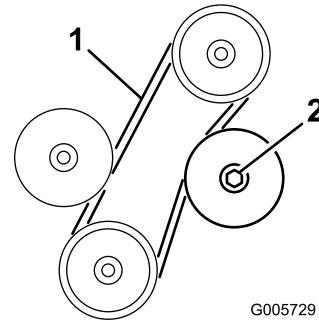

Figure 67
3. Belt should deflect 1/4 inch (6 mm) midway between the pulleys with 5 lb. force (22 N) (Figure 67). If deflection is incorrect, proceed to step 4. If correct, proceed to step 5.
4. Loosen locknut securing adjustable idler pulley (Figure 67). Push idler pulley against belt until proper deflection is achieved and tighten idler pulley locknut (Figure 67).
2. Loosen locknut securing adjustable idler pulley, slide pulley away from belt, and remove belt from pulleys (Figure 67).
pulley and stationary idle pulley. Tighten idler pulley locknut to secure adjustments (Figure 67).